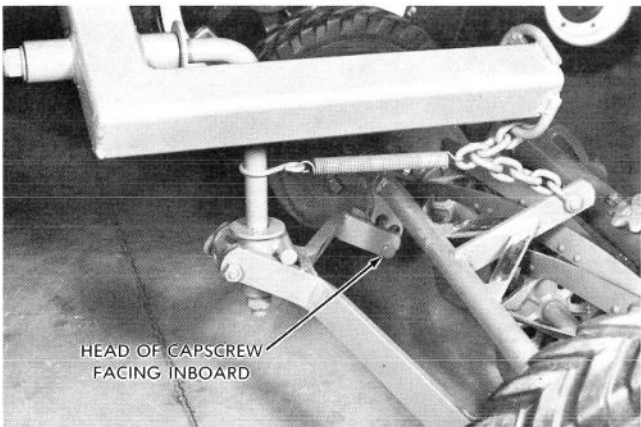

**Figure 85**
Your Parkmaster frame is equipped with five (5) safety chains; one each for mowers 4, 5, 6, 7, and one between 8 & 9. These chains should be used when the unit is in the transport position to prevent the mowers from accidentally being lowered when the tractor is traveling at high speeds. Figures 85, 88, & 90 show the proper attachment to the mowers. The safety chains can be stored right on frame when not being used.